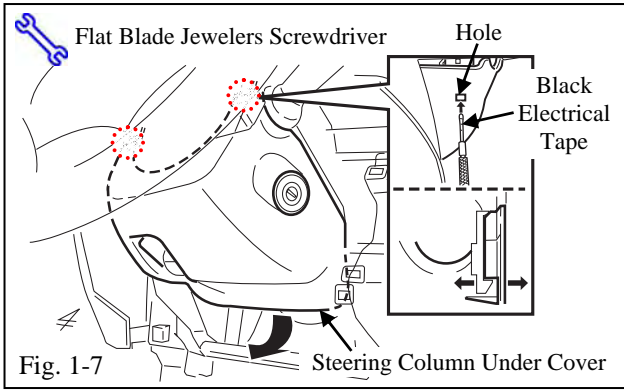

Fig. 1-7
- (g) Remove the Steering Column Under Cover as shown. (Fig. 1-7)
- (1) Insert the key into the Ignition and turn it to ON.
- (2) Turn the Steering Wheel from Left to Right to gain access to the Clip Access holes.
- (3) Wrap the tip of the Flat Blade Jewelers Screwdriver in the Black Electrical Tape.
- (4) Insert it in the rectangular hole of the Steering Column Under Cover front, and release the inside 2 Claws.